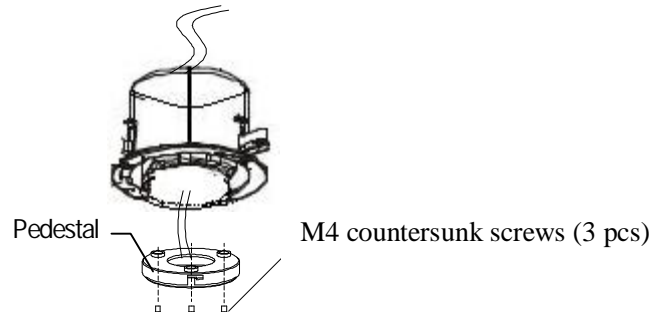

Figure 19
7.4) Fit the “ installation pedestal” with the embedded mount ( Figure 19)